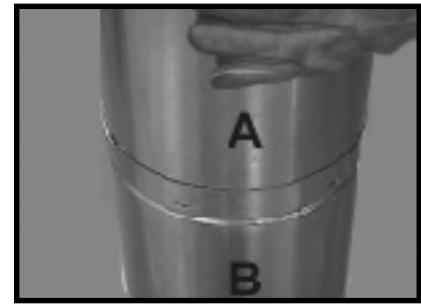

Figure 33
- Once both inner and outer flues are started, press Section "A" into Section "B" firmly until all lances have snapped into place. Tug slightly on Section "A" to confirm it has completely locked into place. See Figure 33.